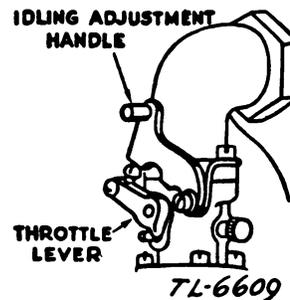

FIGURE 9. Idling device.
b. Resetting. If the governor lever has been loosened or removed from the governor shaft, it is easily reset. With the carburetor attached to the motor and hooked up to the governor lever by means of the throttle link, loosen the setscrew holding the governor lever on the shaft. Push the governor lever toward the left as far as it will go. Hold it in this position and turn the governor shaft to the right with pliers until it strikes a stop in the crankcase. Tighten the screw that holds the governor lever to the shaft until the lever is snug. Push the governor lever to the right as far as it will go, and tighten the screw securely. To idle the engine, lower the idling adjustment lever (fig. 9). Raise the lever to bring the engine back to normal running speed.